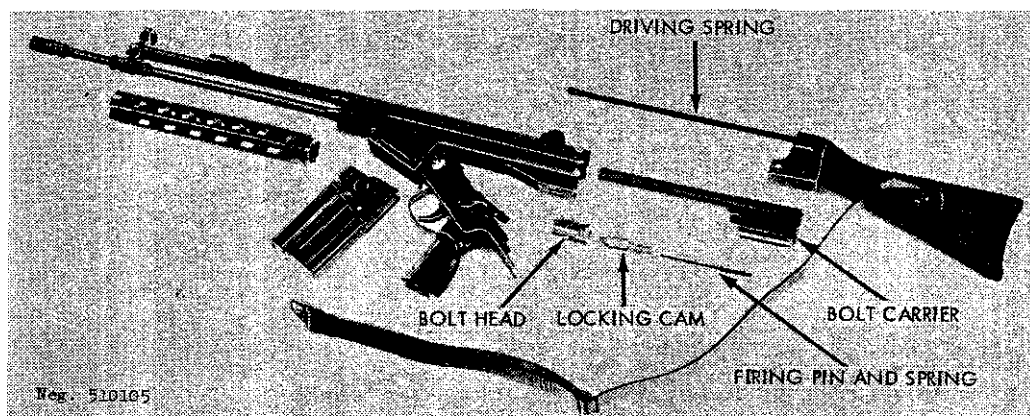

Figure 106. G3 disassembled.
d. Turn the bolt head (fig 106) 90° to the right and pull it forward out of the carrier. Turn the locking cam (fig 106) until its lug clears the carrier; then remove the locking cam, the firing pin, and the spring.
the locking cam is aligned with the rounded side of the bolt head. Place the bolt head (bolt face down) on a firm surface and place the bolt carrier on the assembled bolt head/locking cam unit. Strike the rear end of the bolt carrier (fig 106) a firm blow with the hand to seat the bolt head against the carrier. Turn the bolt head slightly to the left; pull it forward about one-fourth inch, and then rotate it fully to the left. If the bolt head is pushed back into the carrier, the rollers will lock outward, and the bolt cannot be assembled into the rifle. If this happens, swing the trigger group down on its pin. Reverse the bolt unit and insert it into the receiver as far as possible. Strike the projecting driving spring tubular housing (on the bolt carrier) a sharp blow. This will cause the rollers to retract into the bolt, and the entire unit will go farther into the receiver. Remove the reversed bolt unit and proceed as in the following paragraph.